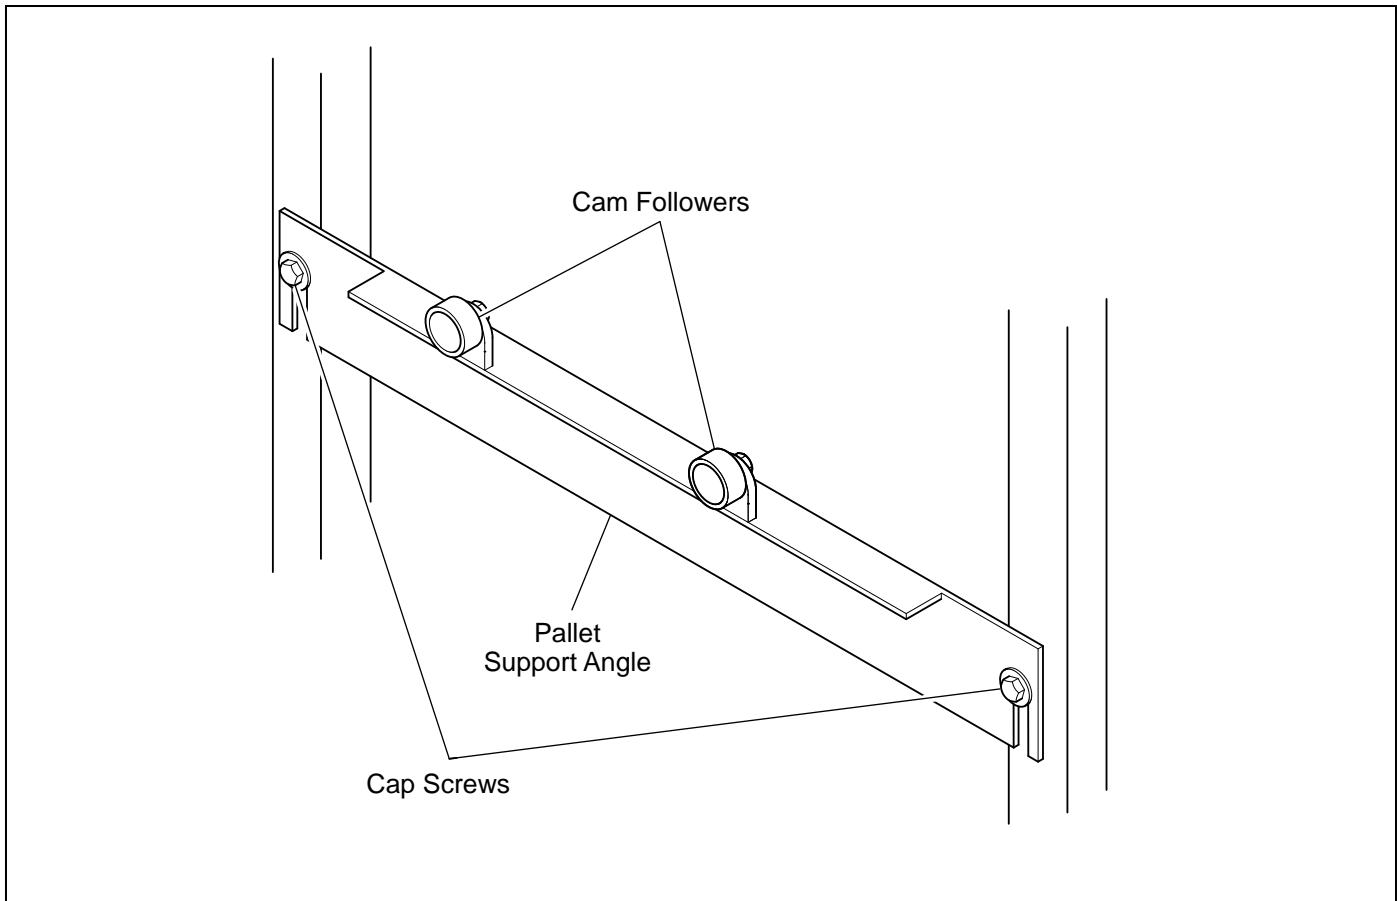

Figure 1.3 Pallet Support Angle
2. Loosen the two capscrews at each end of the support angle. (See Figure 1.3)